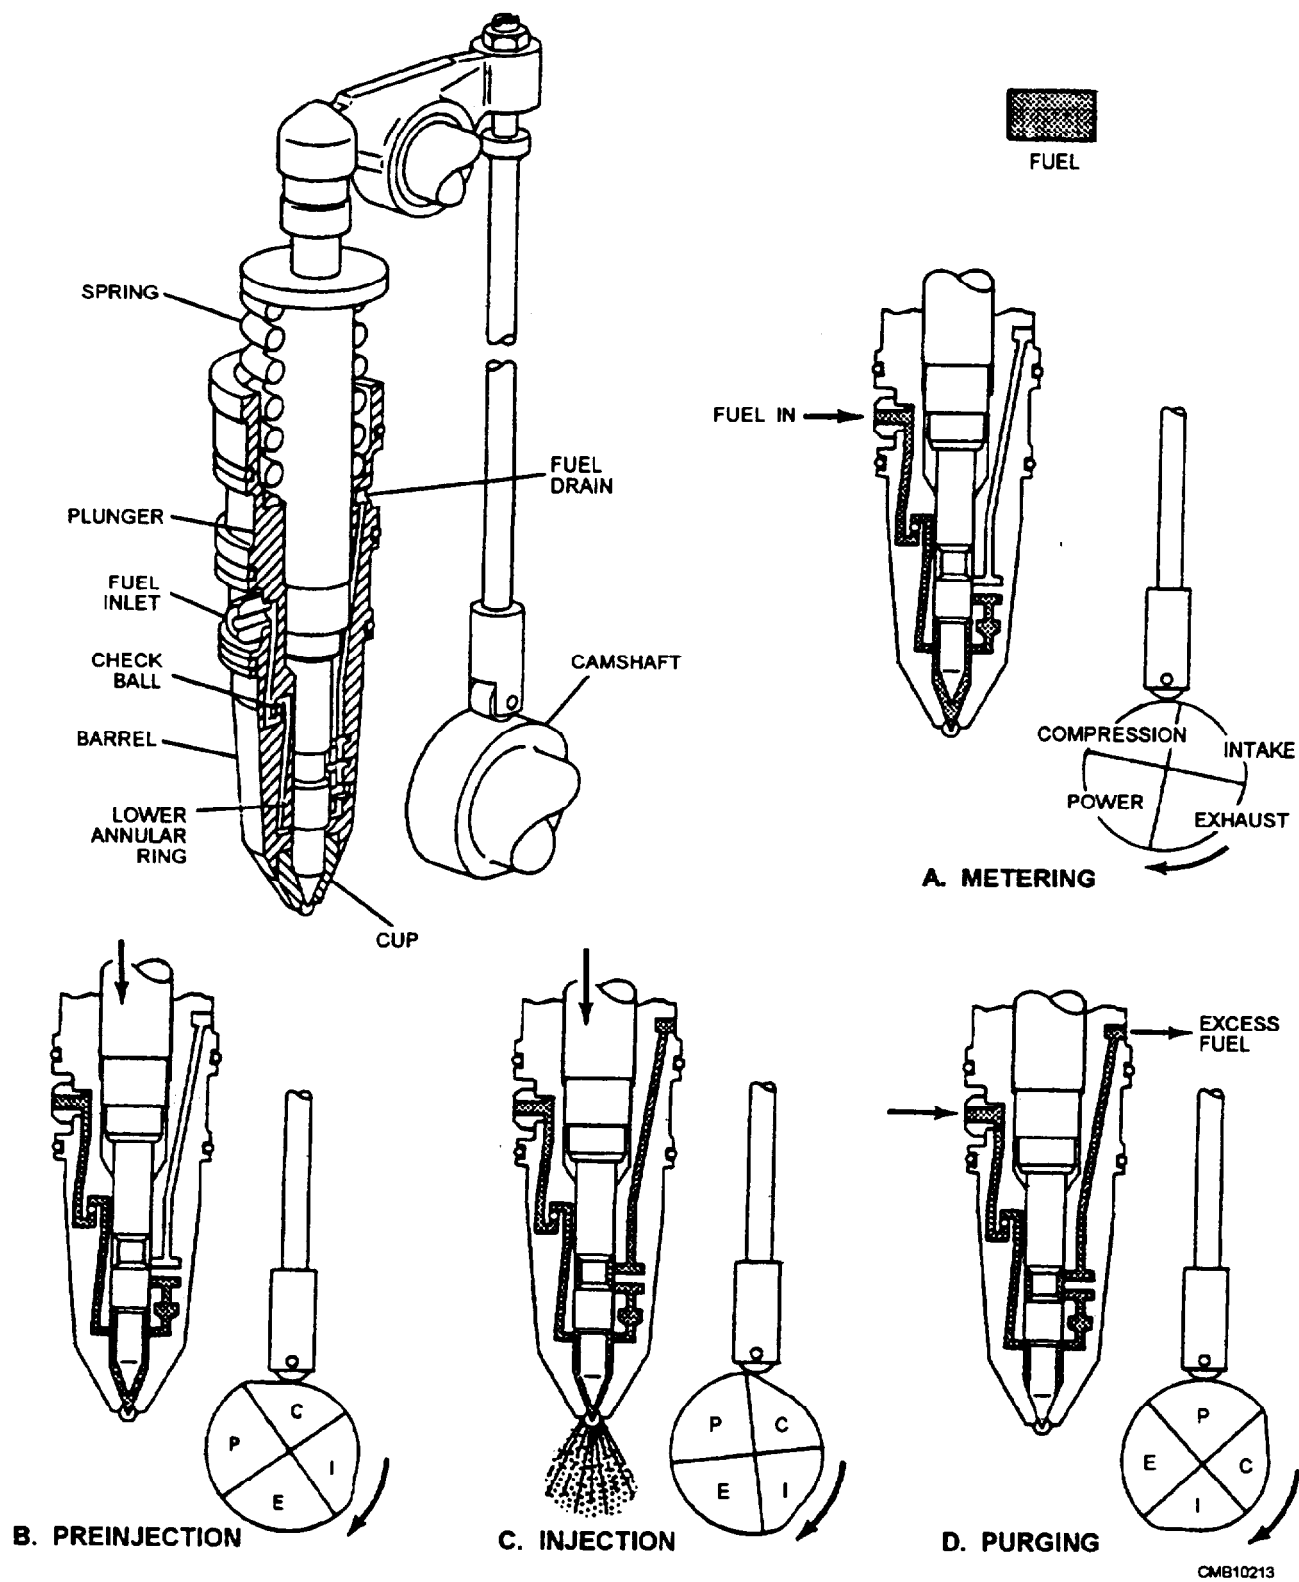

Figure 5-30.—Pressure-time injector operation.
- **Metering** (fig. 5-30)—The plunger is just beginning to move downward and the engine is on the beginning of the compression stroke. The fuel is trapped in the cup, the check ball stops the fuel flowing backwards, and fuel begins to be pressurized. The excess fuel flows around the lower annular ring, up the barrel, and is trapped there.
- **Pre-injection** (fig. 5-30)—The plunger is almost all the way down, the engine is almost at the end of the compression stroke, and the fuel is being pressurized by the plunger.
- **Injection** (fig. 5-30)—The plunger is almost all the way down, the fuel injected out the eight orifices, and the engine is on the end of the compression stroke.
- **Purging** (fig. 5-30)—The plunger is all the way down, injection is complete, and the fuel is flowing into the injector, around the lower annular groove, up a drilled passageway in the barrel, around the upper annular groove, and out through the fuel drain. The cylinder is on the power stroke. During the exhaust stroke, the plunger moves up and waits to begin the cycle all over.